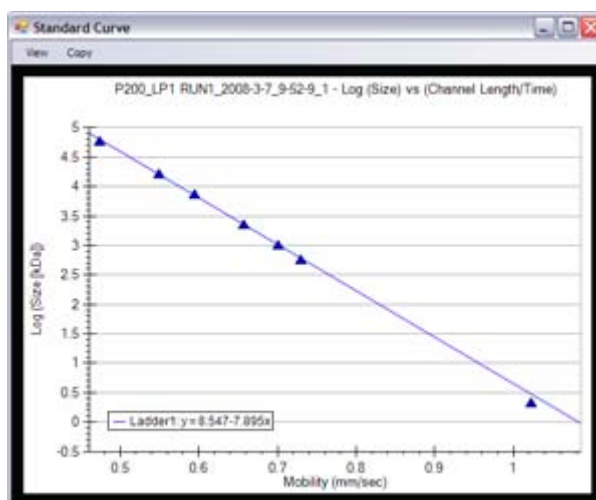

Figure 9. Standard Curve - Protein
- 5 The ladder is analyzed (see “Ladder Analysis” on page 257) and a standard curve of migration time versus mobility is plotted from the ladder by interpolation between the individual protein size/migration points. The standard curve derived from the data of the ladder well should resemble the Figure 9.